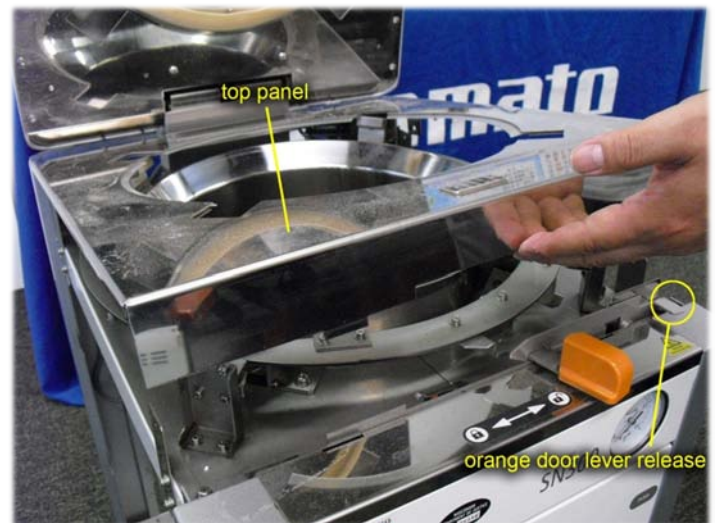

Figure 2
2. Open the sterilizer door and remove the top panel from the unit. See Figure 2.
3. To manually check if the solenoid is working properly, first move the orange door lever to the lock position. To do this while the sterilizer door is open, press down on the orange door lever release (see Figure 2) and slide the lever left